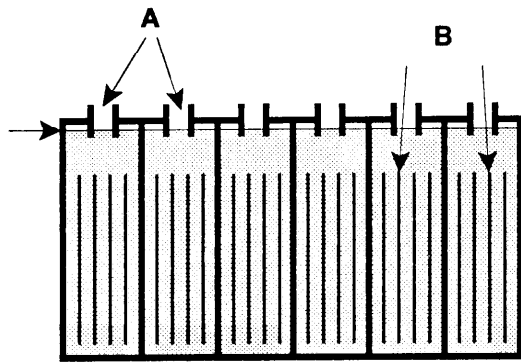

FIG. 25
2. Each week AFTER charging, check water level in each battery cell of all batteries. Water level should reach bottom of sight tubes "A". If needed, add distilled water. DO NOT overfill. (Figure 25)